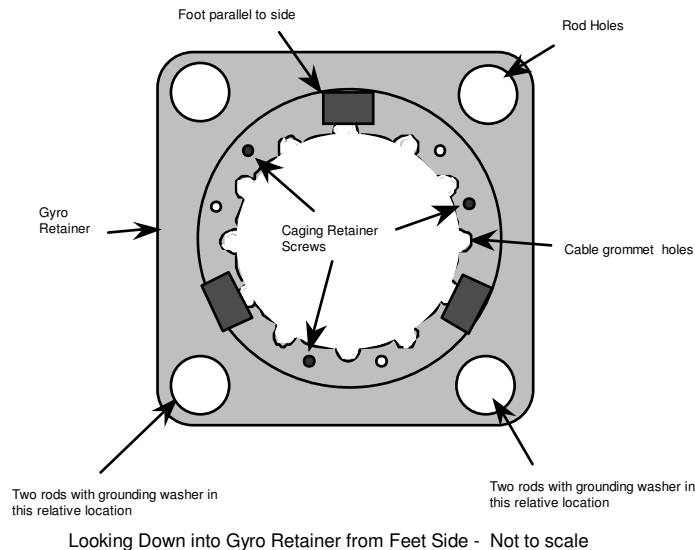

Figure 2. Screw Locations
- 6.2 Insert three Socket Head Cap Screws (P/N 25100-111) (for holding the Caging Retainer) into each Gyro Retainer, by screwing them all the way in from the inside out (from feet side). There are 3 pairs of holes for these screws. The screws should be inserted in the rightmost clockwise hole of each pair, as one looks downward from the feet side. See Figure 2 for orientation.